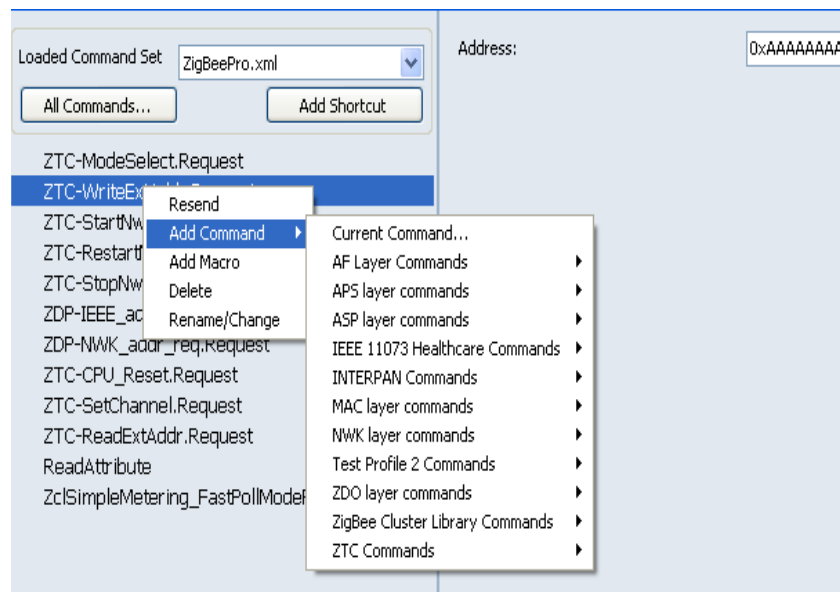

Figure 2-31. Command List Options
- To add a new command to the command list, click the “Add New Command...” button and select the command in the hierarchical pop-up menu or select Add Command from the context menu as shown in Figure 2-31.